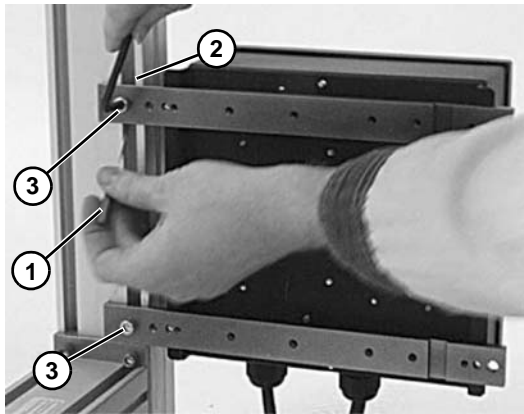

Figure 23
- With screwdriver (Figure 23, item 1), raise T-bar (Figure 23, item 2) to align it with hole in top mounting bar. Insert M6 screw (Figure 23, item 3) and partially thread into T-bar.